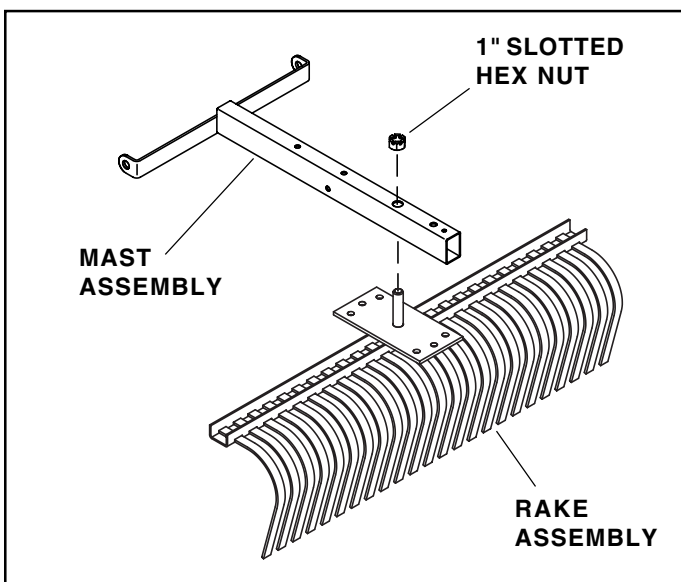

FIGURE 1
1. Attach the mast assembly to the rake assembly by sliding the mast assembly down over the threaded stud on the rake assembly. Put the forked end of the mast assembly on the front side of the rake assembly. Install a 1" slotted hex nut on the end of the stud and tighten until it is just snug. Back the nut off until the first slot aligns with the hole in the threaded stud or until the mast assembly can pivot on the rake assembly. See figure 1.